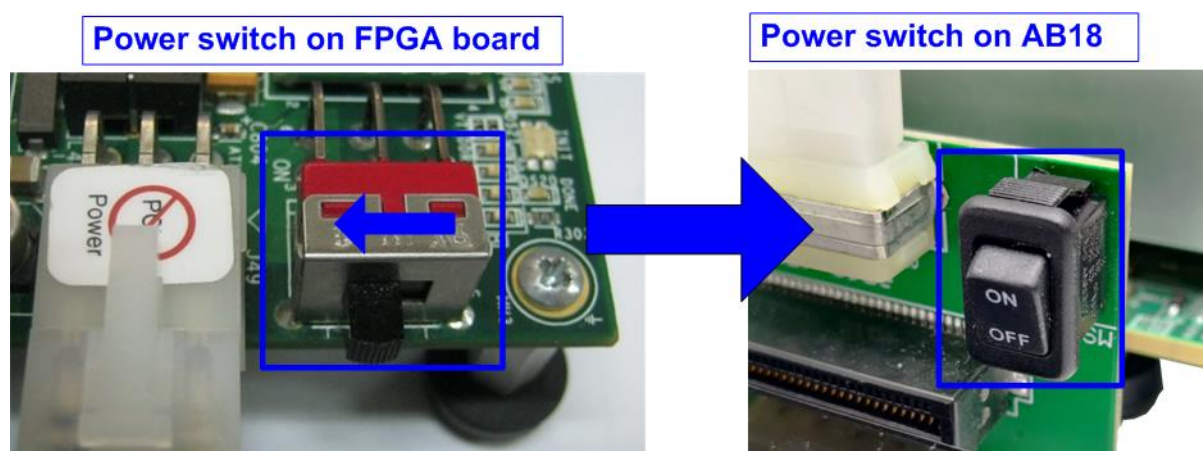

Figure 2-6 Turn on power switch on FPGA and adapter board
- 6) Power on FPGA development board, ATX power supply, and AB18, as shown in Figure 2-6.